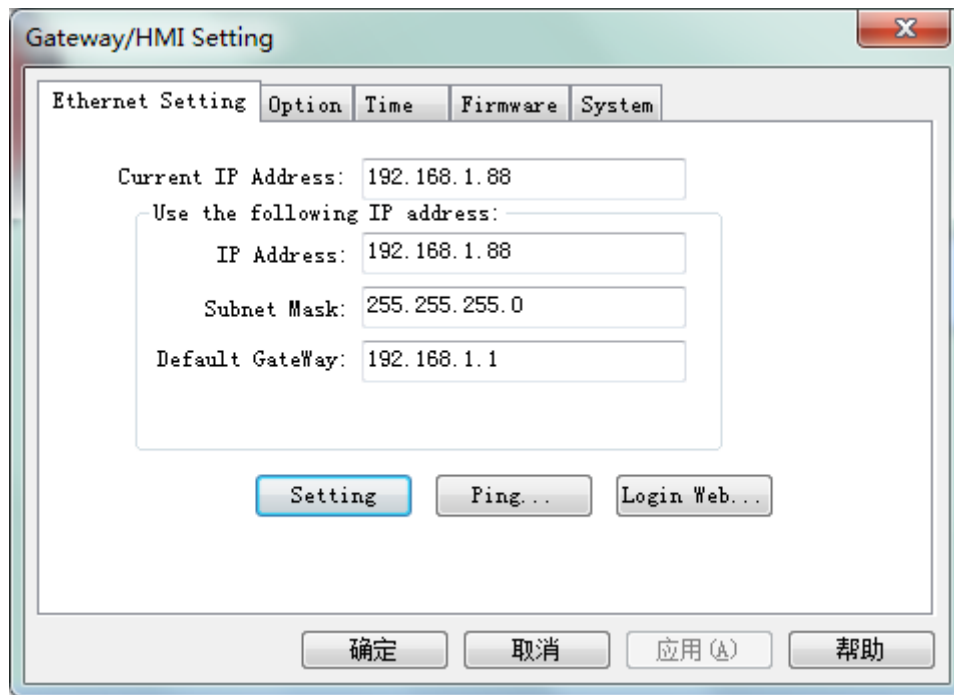

figure 4-13-2 Ethernet Setting
**Network port settings:** you can change the IP address of the hardware gateway / touchscreen. The default IP address of gateway is 192.168.1.88, and the subnet mask is 255.255.255.0 by default. The default gateway 192.168.1.1 is set up, and click OK. The "Ping" function tests whether the current IP address is successful in Ping. The "login page function" can be logged on to the WEB server where the gateway is located, as shown in figure 4-13-2.